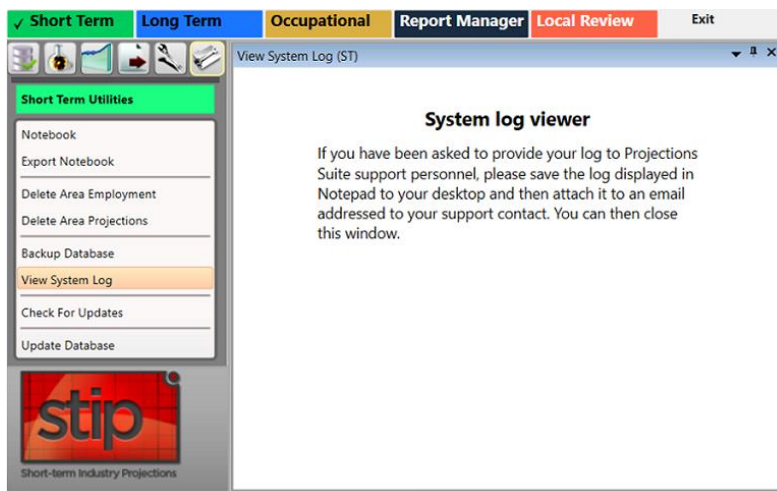

Figure 1: View System Log module, with the View System Log dialog box docked into the window
1. Click the **View System Log** module's menu choice. The **View System Log** instructions dialog box containing this message (in Figure 1, the **View System Log** dialog box has been docked into the window) will be displayed: